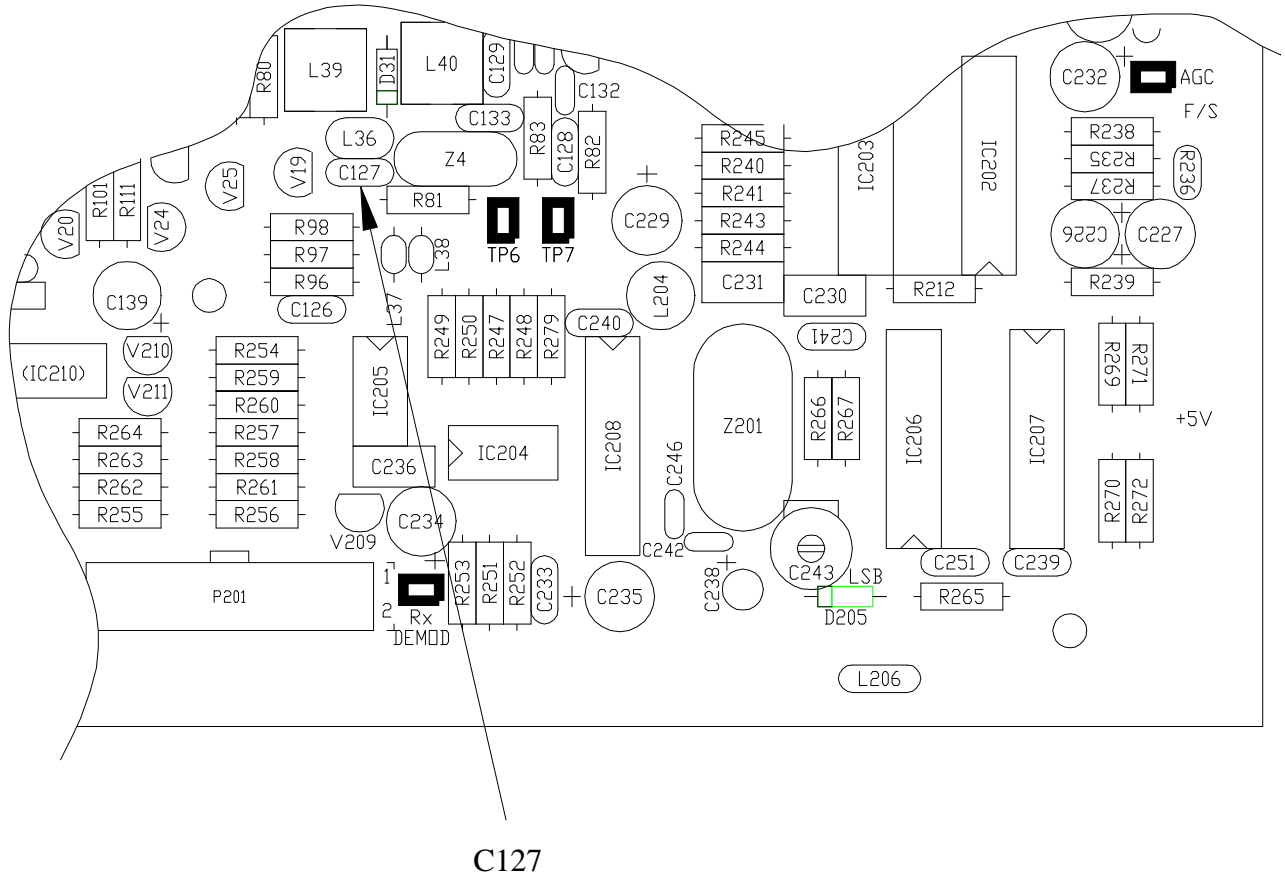

Figure 1: Portion of Receiver/Exciter PCB
1. Locate C127, 33 nF. Refer Figure 1.